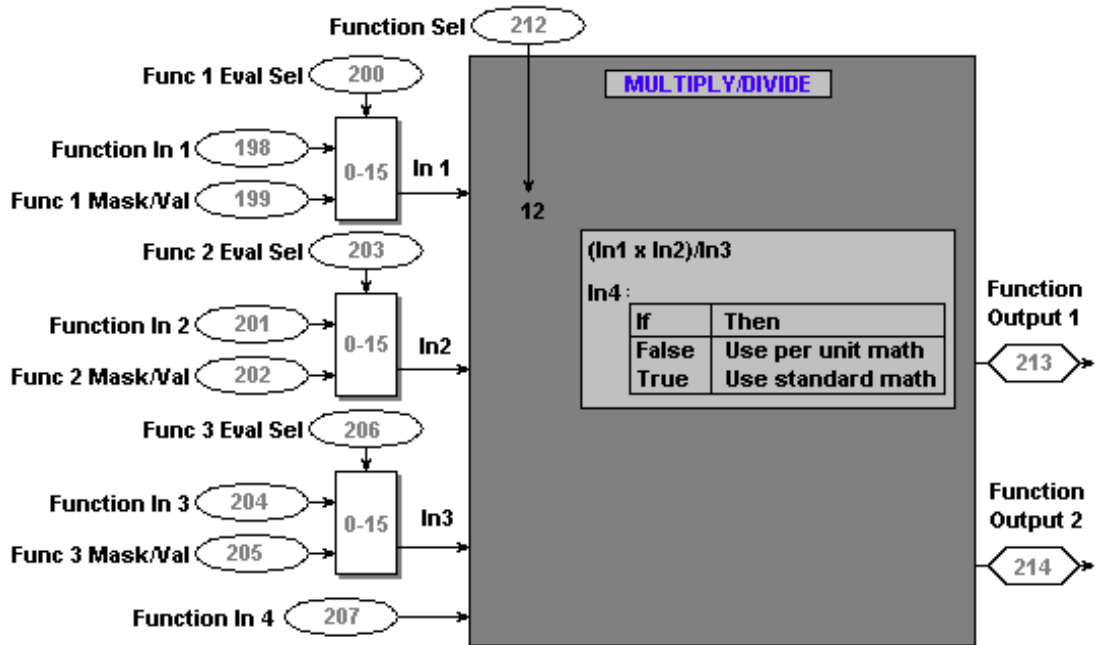

Figure 1
The Multiply/Divide function block is used to configure the drive to perform math functions, either standard or drive per unit scales, on the "function" inputs. To configure the drive with the Multiply/Divide circuit the [Function Sel] parameter (212) must be programmed appropriately. Refer to figure 1.